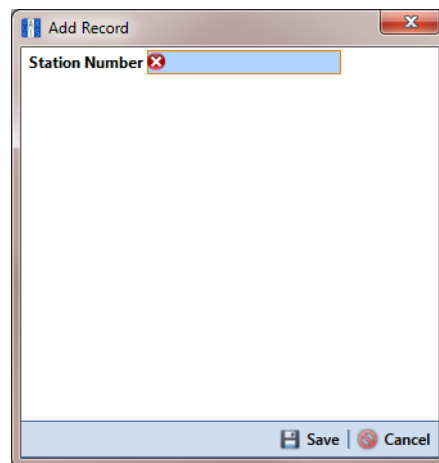

Figure 7-59. Add Record
- a Click  **Add** to open the *Add Record* dialog box (Figure 7-59).